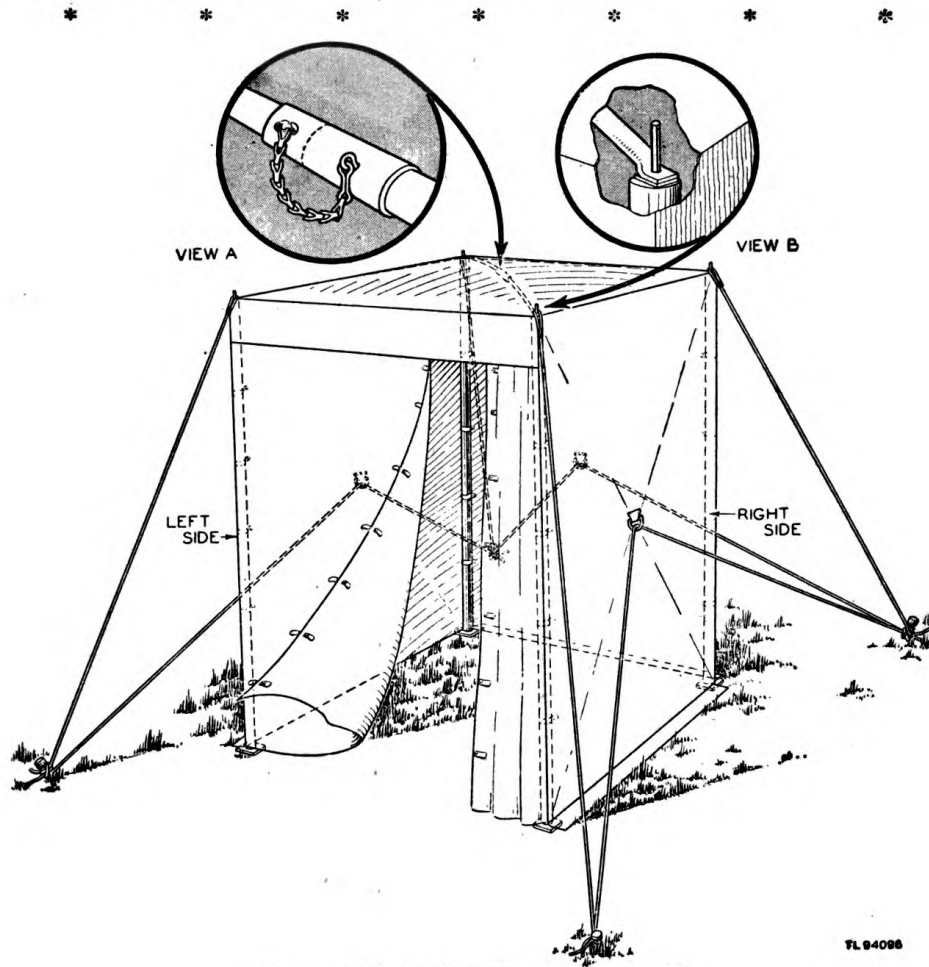

FIGURE 2. Inflation Shelter S-13/TM.
b. **INFLATION SHELTER S-13/TM (fig. 2).** Inflation Shelter S-13/TM is a portable balloon inflation shelter made of 8-ounce canvas duck which is mildewproofed and waterproofed. The shelter is * * * 9 feet (fig. 2). A D-ring is sewn to the canvas at the center of each side panel and the back panel. A 35-foot length of rope is provided to be cut into three lengths for threading through the D-rings and fastening to the corner stakes to prevent the sides and back from bowing inward.
(12) Cut three lengths of rope long enough to run from one corner stake through the D-ring on the side or back panel and to the other corner stake on the same side. Thread the ropes through the D-rings and tie the ends to the stakes just tightly enough to hold out the shelter walls (fig. 2).
(13) Finally, make the * * * sides and back.